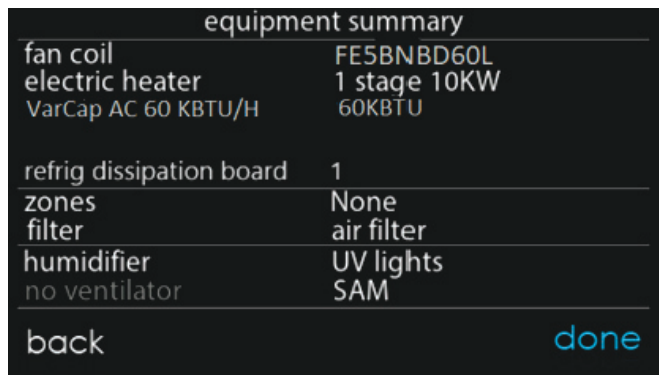

Fig. 11 – Equipment Summary Screen
4. The Ion™ Black System Control will then advance through the remaining learning processes including the setup of accessories such as filter type, UV light, and humidifier. Upon completion of the setup screens, the equipment summary screen will be presented (Fig. 11). Verify the correct equipment is shown on this screen. Next an airflow verification test is executed before returning to the main screen.